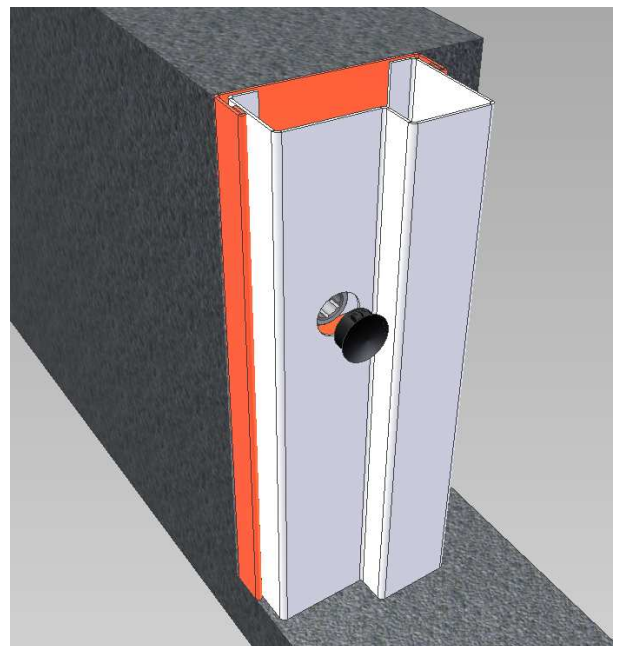

Fig 6
- 6, Insert the fixing caps to cover the fixing hole within the frame. Fig 6